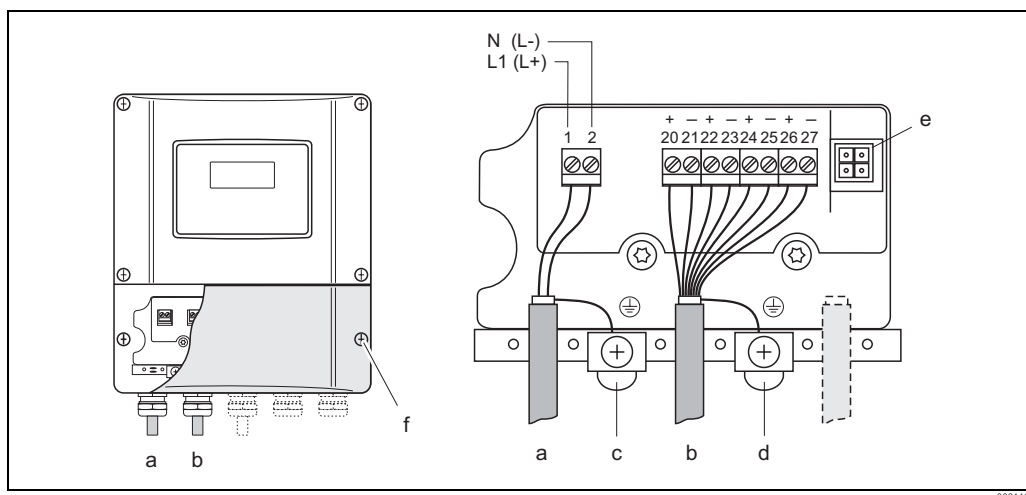

Fig. 37: Connecting the transmitter (wall-mount housing); cable cross-section: max. 2.5 mm²
- Wiring diagram (wall-mount housing) → Fig. 37